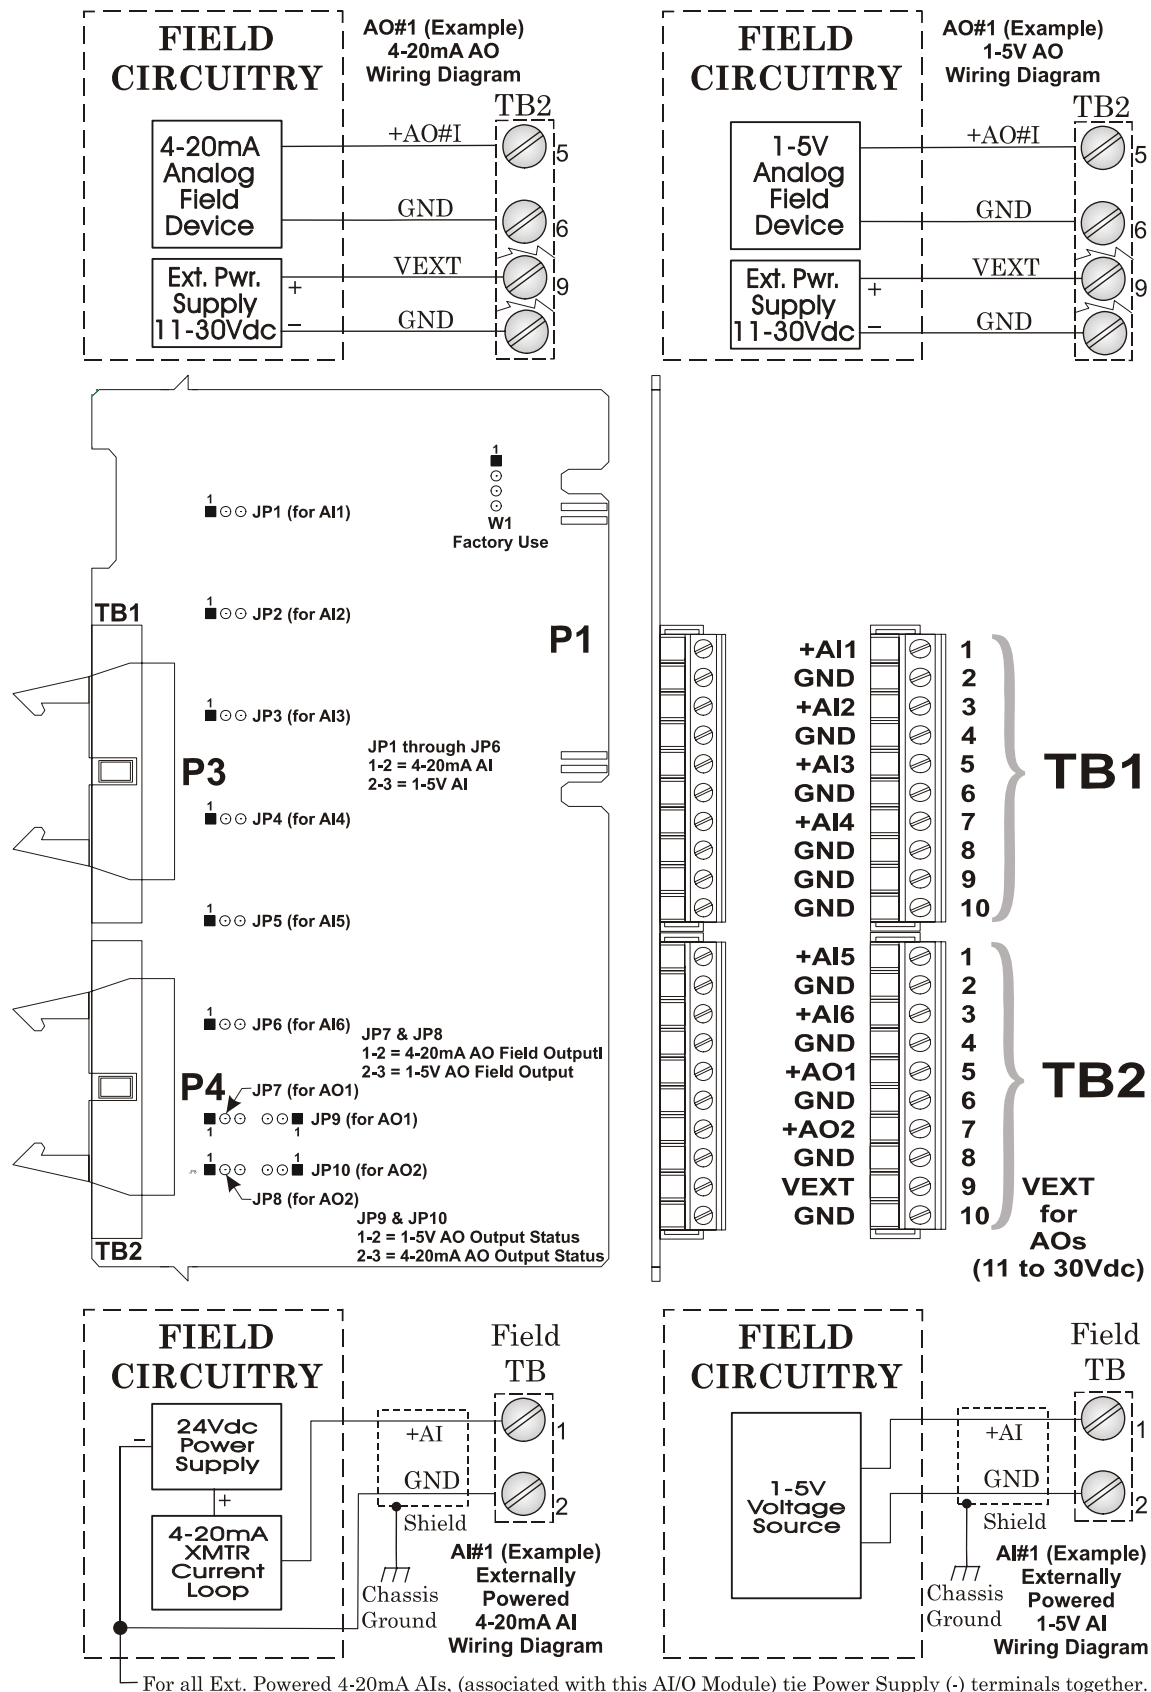

Figure 2-20 - Non-isolated AIO & AI Module Configuration Diagram
2.3.4.5 Non-isolated Analog Input/Output & Analog Input Modules (see Figure 2-20)
AI/O and AI Modules are provided with Configuration Jumpers that accommodate configuration of each of the six Analog Inputs. Analog Input can be individually configured for 1-5V or 4-20mA operation. Field wiring assignments are provided in Figure 2-20.